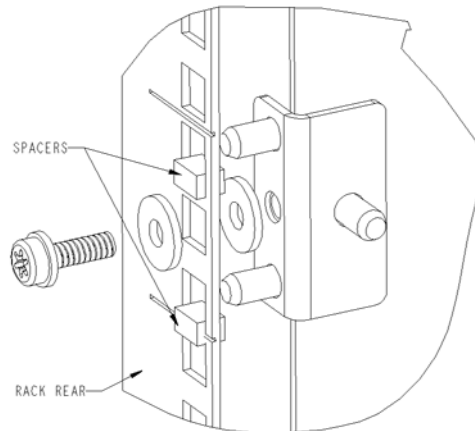

Figure 3. Installing the Rear Rail-Tray Brackets (Compaq/Rittal Rack)
- For a Compaq/Rittal rack, assemble each of the two brackets with (2) spacers, (2) M5 flat washers, and (1) M5 Torx head screw with captive lock washers as shown in Figure 3.